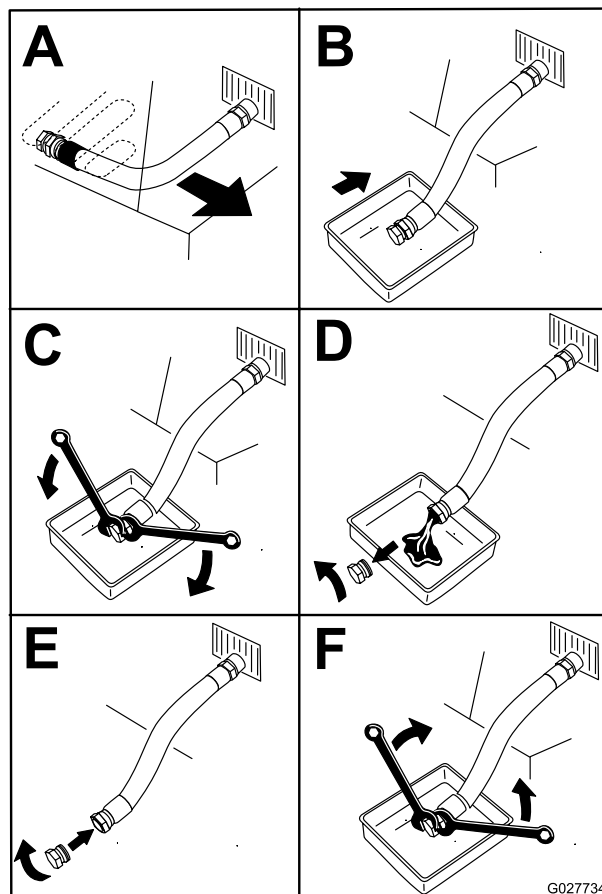

Figure 55
5. Drain the oil from the engine (Figure 55).